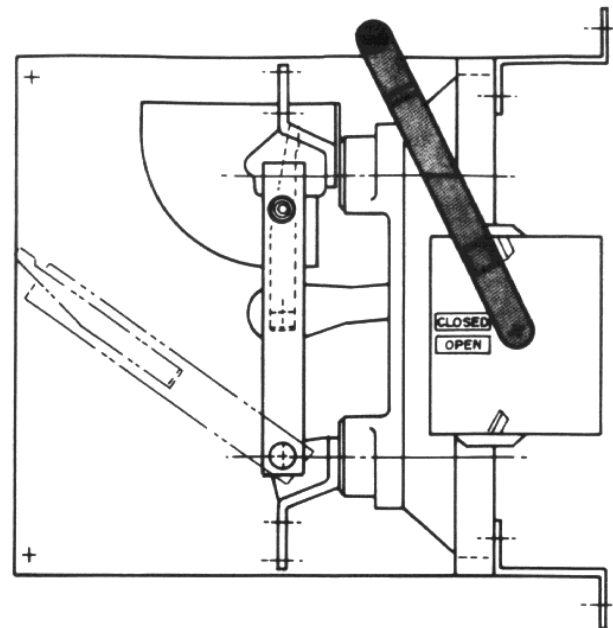

Fig. 7 Handle "UP" in switch closed position.
The component parts for this type are arranged per Fig. 7. The arrangement is essentially the same as for Type III except the handle is on the right side of the enclosure.
- Mount the frame-mounted switch (Fig. 7) in the enclosure. Check to be sure the 2-1/4" dimension from frame-mounting holes to outside of enclosure (per Dwg. 424-014) has been maintained.
- Move handle to "UP" or closed position as shown in Fig. 7 and engage hub and key of handle with shaft extension and keyway of stored-energy device.